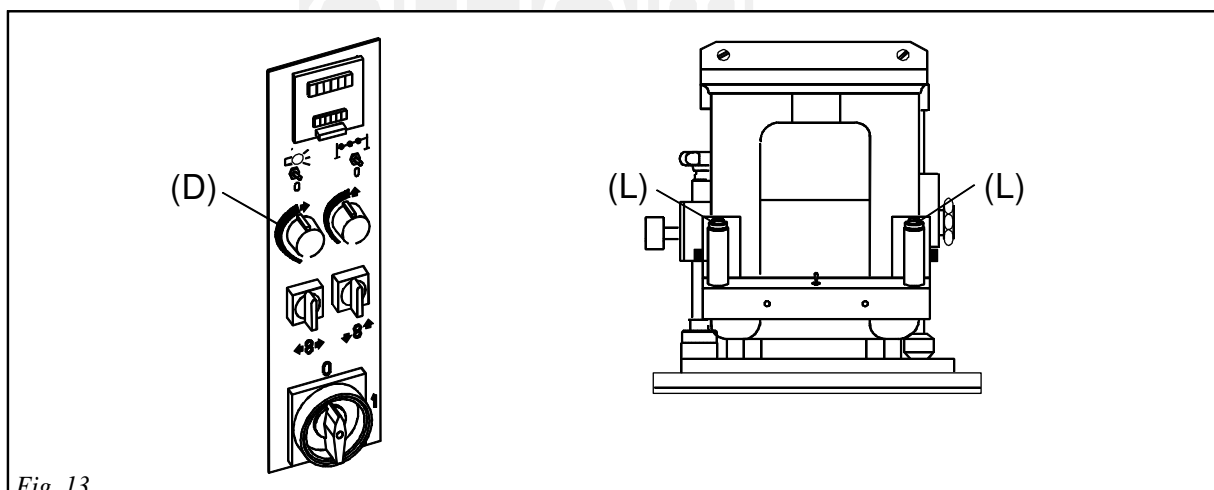

Fig. 13
- c)** simultaneously press the cutting pushbuttons (L) and keep them depressed until the striking plate carries out the complete cutting operation and starts its ascent; the travelling head will make the automatic return displacement towards the starting position: the amount of such an automatic return can be properly adjusted through the potentiometer (D) (Fig. 13);